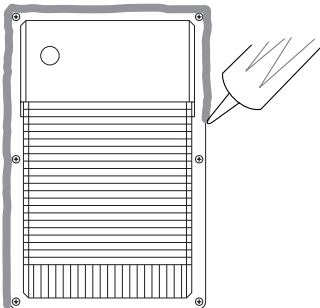

Figure 3
- Caulk around the light fixture edges with silicone weather sealant (Figure 3).